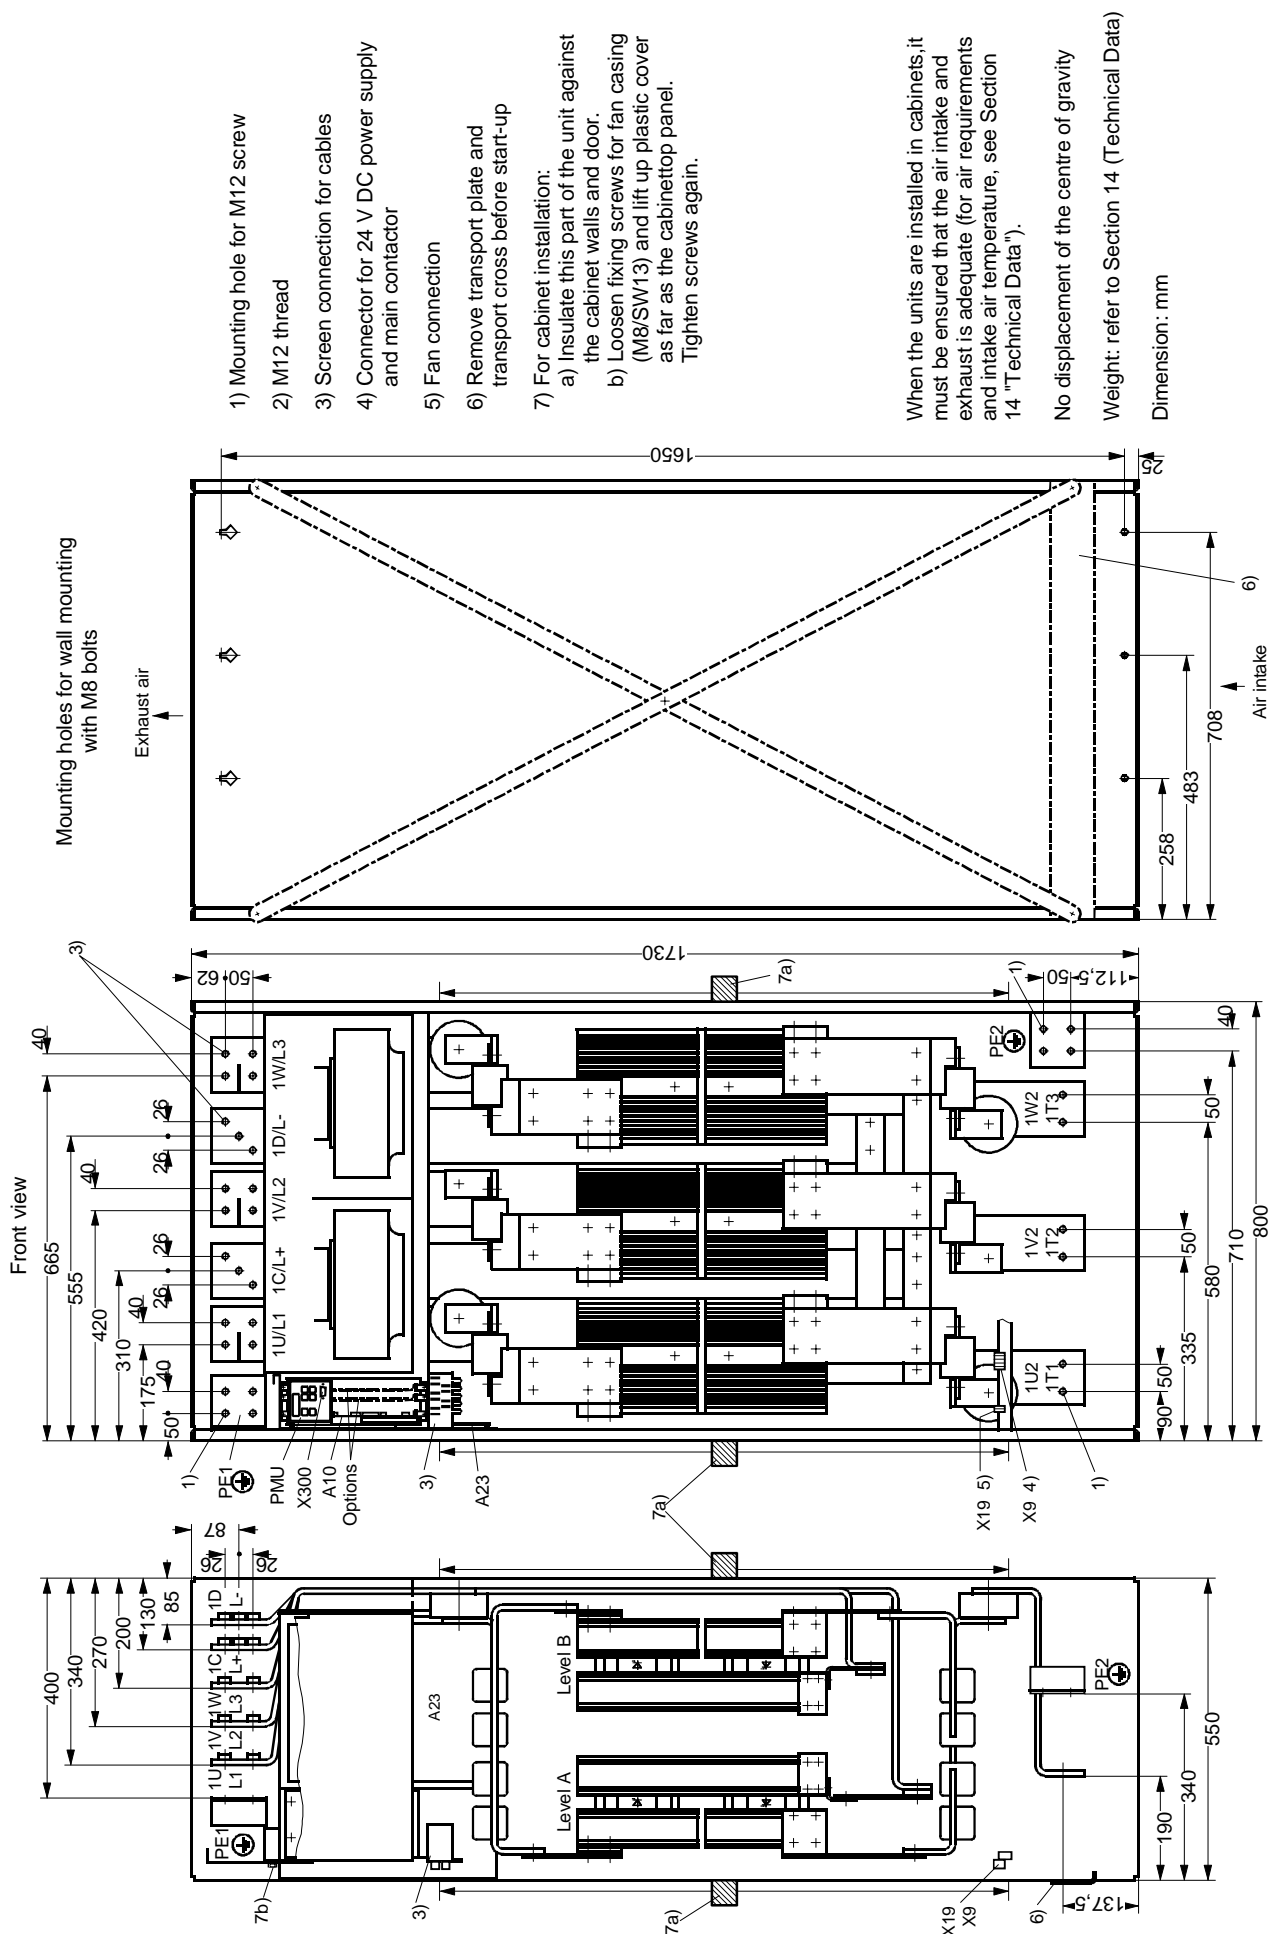

Figure 2.5 Dimension drawing, size K
- ◆ dimension drawing (Figure 2.5 for size K)